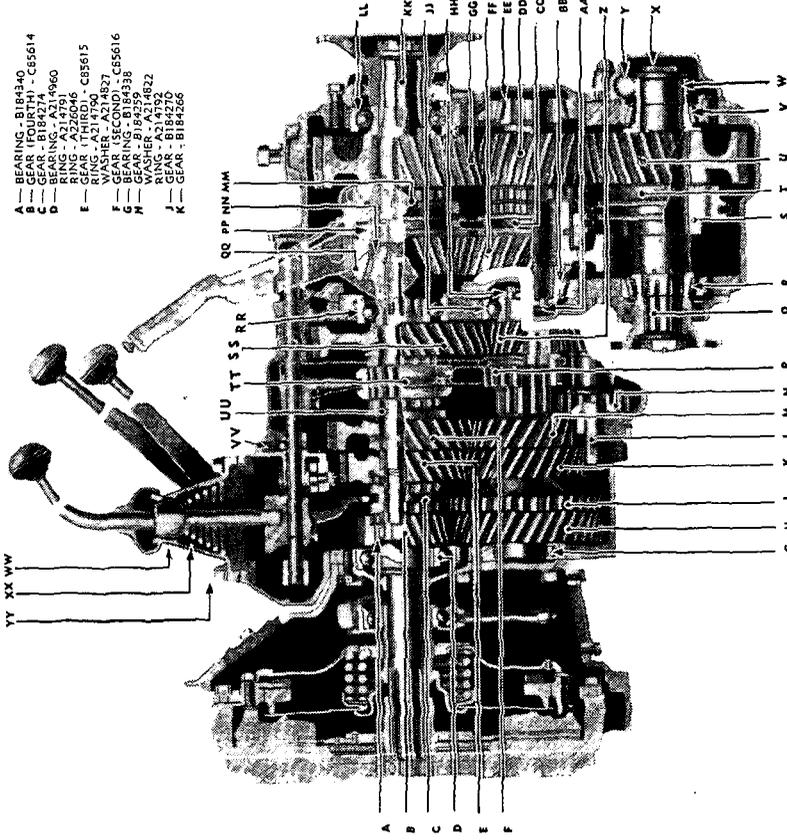

Figure 78.—Transmission assembly, sectionalized.
*b. Operation* (figs. 78, 79, 81, and 82).—Power is received by the transmission from the engine, through the clutch, and then through the transmission main drive gear, whose splined shaft engages with the clutch splined hub. Power then flows through the transmission,